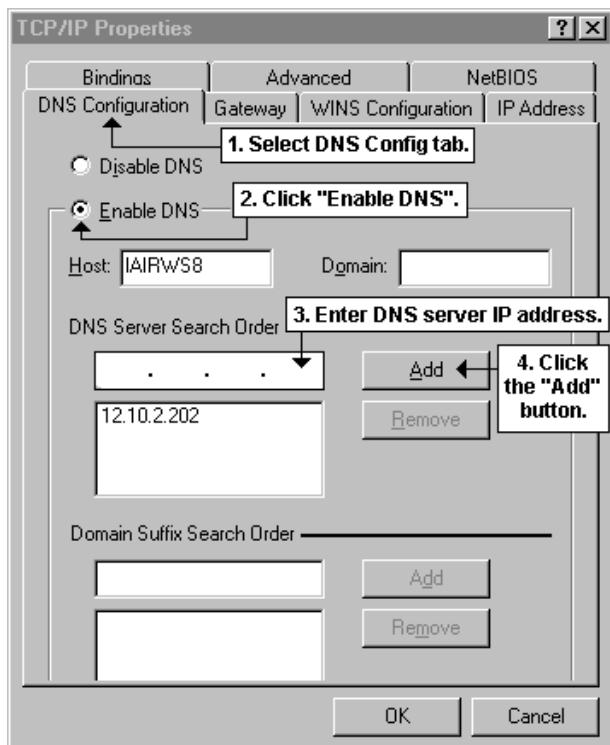

Figure 3-12 Windows 9x
a.) For Windows 95® or 98®: (see Figure 3-12)